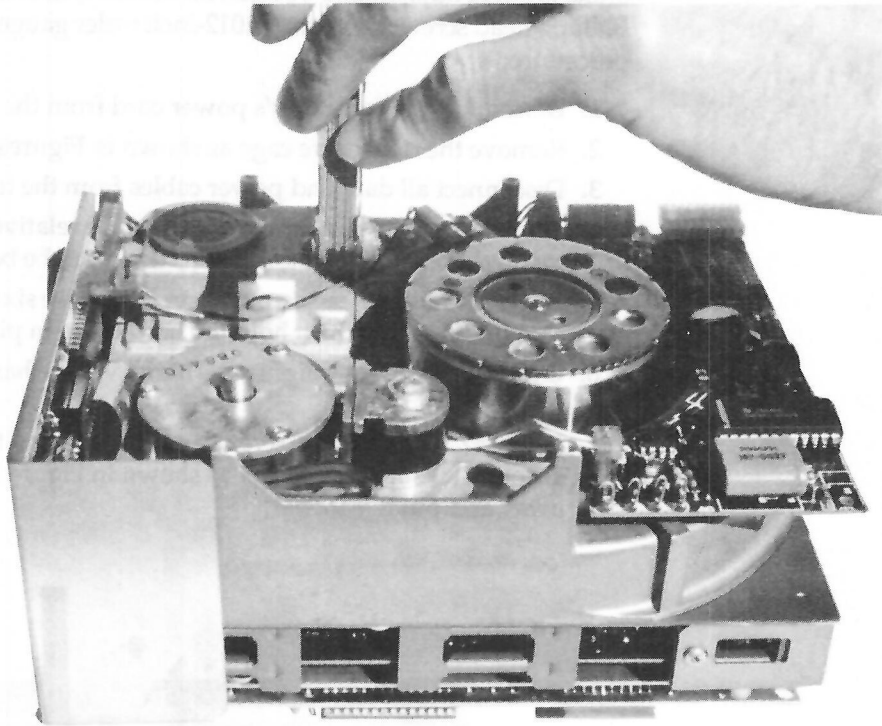

Figure 13-26 Adjust the brake with a 0.012-inch feeler gauge.
8. Locate the solenoid marked "Inertia Dynamics, Collinsville, CT USA." Insert a 0.012-inch feeler gauge as shown in Figure 13-26.